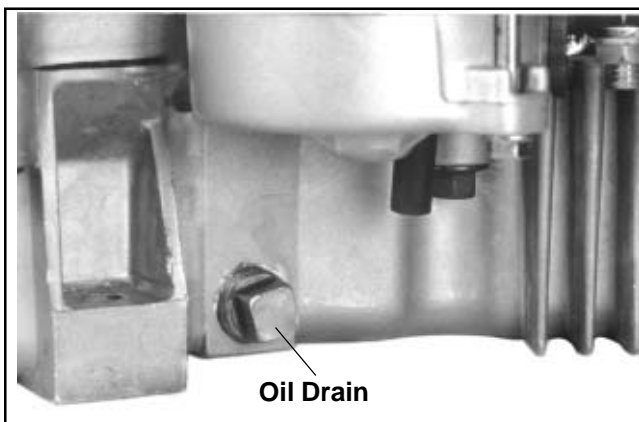

Figure 6-4. Oil Drain Plug (Starter Side).
1. A drain plug is located on either side of the oil sump; one is near the starter, the other is near the oil filter. See Figures 6-4 and 6-5. Clean the area around the most accessible oil drain plug and the oil fill cap/dipstick.